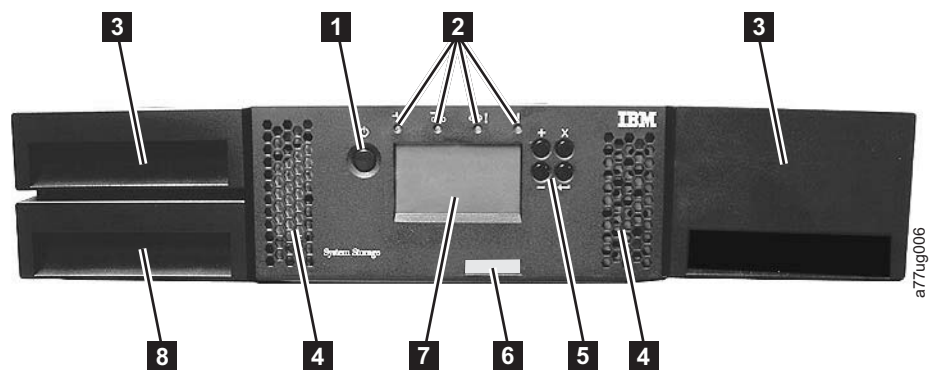
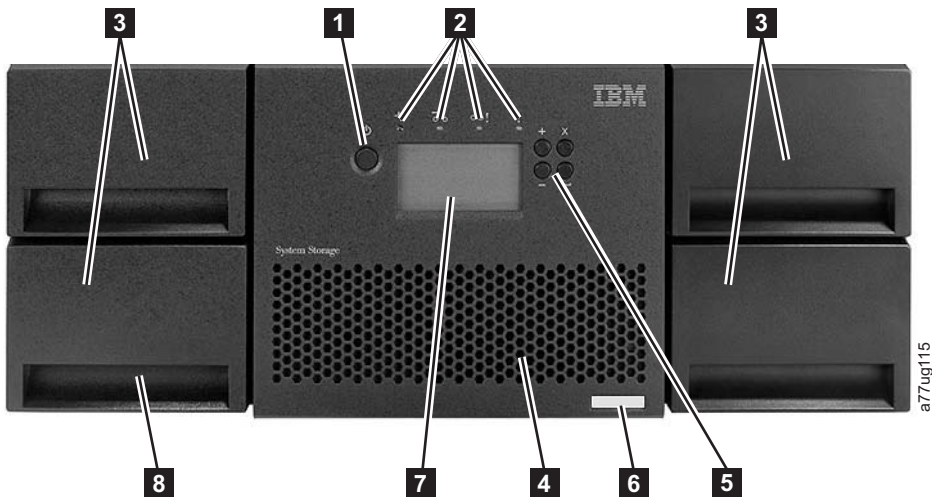

Figure 1-1. Front panel of a 2U library
Figure 1-2. Front panel of a 4U library
2. Turn off the power to the library by pushing in on the **Power** button (1) shown in Figure 1-1 on Page 1-1 for 4 seconds.
Table 1-1 below contains front panel descriptions for both the 2U library in Figure 1-1 and the 4U library in Figure 1-2.